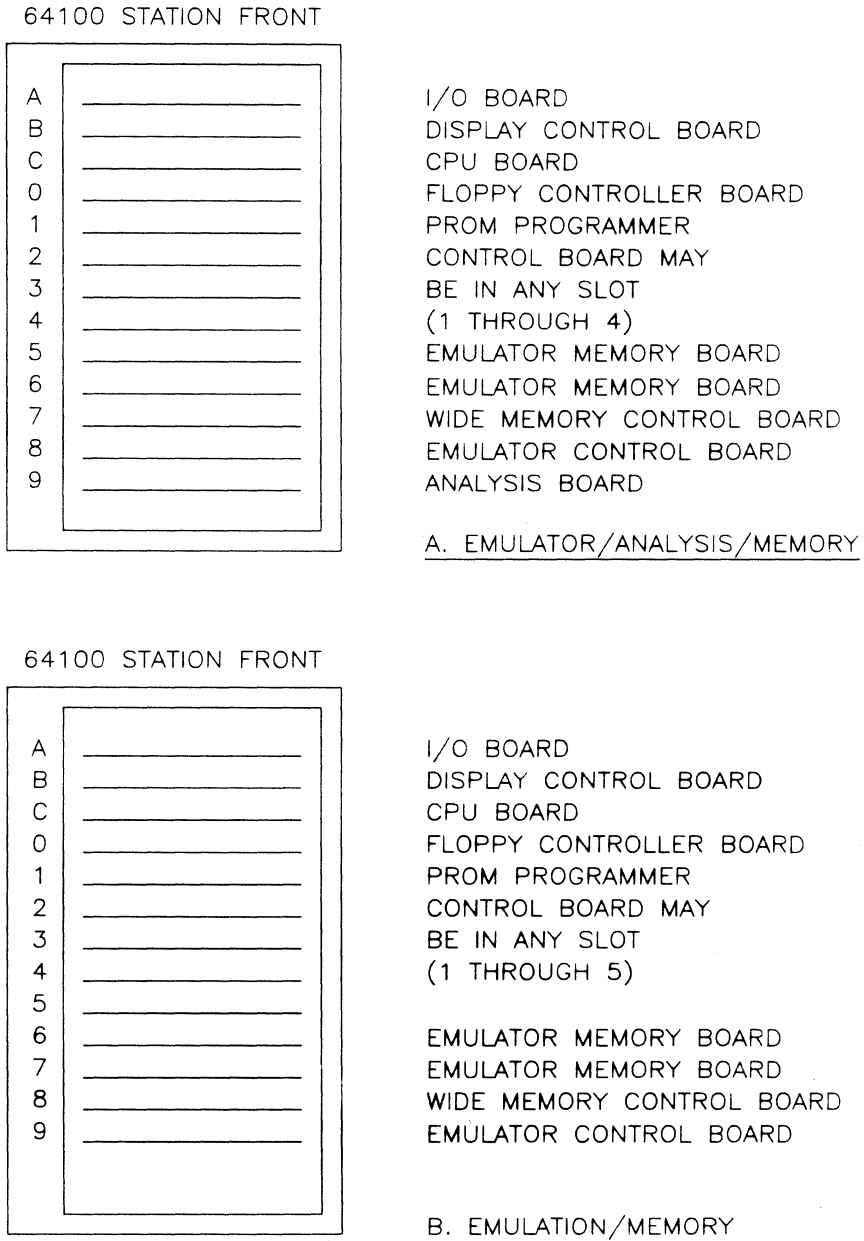

Figure 2-1. 64100A Card Cage Configuration
The Model 64224A 80186 Emulator Pod must be connected to the Model 64223A 8018X Emulator Control Card before installation in the mainframe. Figures 2-1 and 2-2 are included to show the recommended placement of the Control Card in the 64000 mainframes. The preferred slot for the Emulator Control Card is the rearmost slot (if no analyzer is being used), or the second slot from the rear (if an analyzer is being used). This allows proper connection of cabling to the memory controller and optional analyzer; allows connection of the shielded pod cable assembly to the RFI ground bracket; and permits maximum free cable length outside the development station.
h. Now the 64223A Control Card and the 64155A memory controller must be installed in the card cage. To do this, grasp the cards at each side with the component side of the cards towards the front of the development station and the card edge connectors labeled "P1" towards the bottom of the card cage. Insert the cards into the guide rails of the selected slots (refer to figure 2-1 or 2-2). For example, if you are installing the emulator in a 64100A development station and will be using an analyzer in slot #9, then the 64223A card should be inserted in the guide rails of slot #8 and the 64155A card should be inserted in the guide rails of slot #7. Making sure the connectors "P1" and the edge connector sockets on the Motherboard are aligned, push the cards down until each seats firmly in its respective socket.